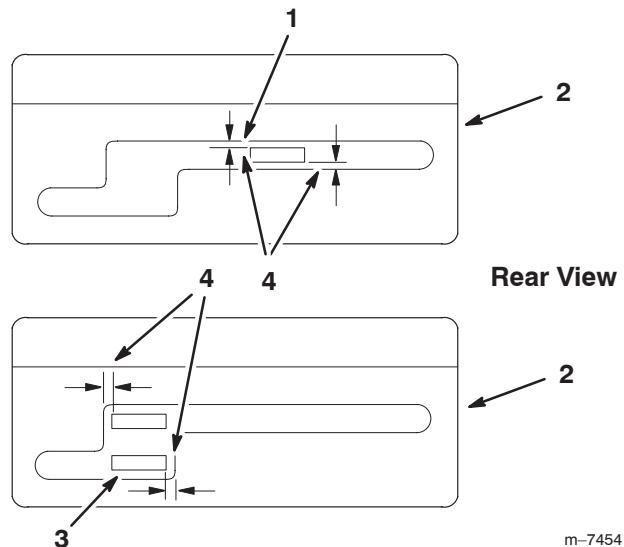

Figure 12
- Shift lever to second gear and check alignment of lever in slot of shifter lever plate. The clearance between top and bottom of the shift lever should be equal (Fig. 12).
- If clearance is not correct, remove lever and bend it slightly to adjust (Fig. 12).
- Shift lever to neutral and check alignment of lever in slot of shifter lever plate. The clearance on the sides of shift lever should be equal (Fig. 12).